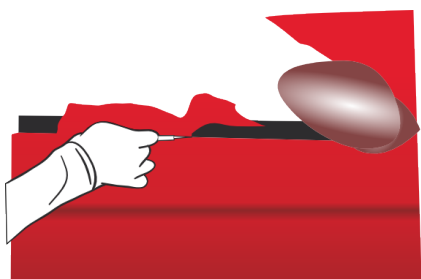

Figure 36
- › For cutting, the cutter blade must be placed in a flat position, between the body and the seal, and perpendicular to the seal. Carry out the cutting operation by always maintaining this blade orientation. (FIG. 36)